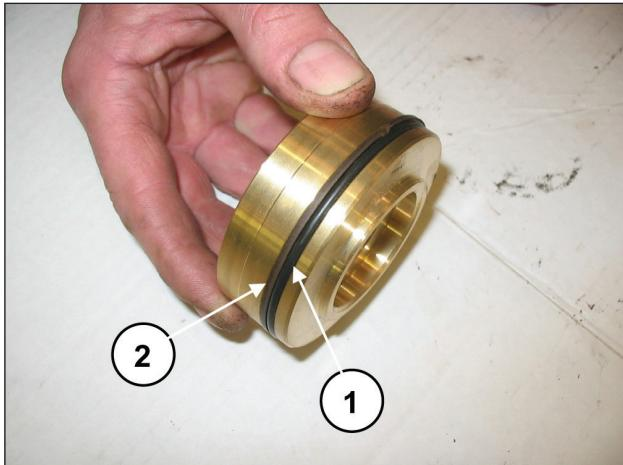

Fig. 114
Fit the O-ring, exploded view pos. 17 (pos. ①, Fig. 114) and back-up ring, exploded view pos. 21 (pos. ②, Fig. 114) on the outlet valve plug.